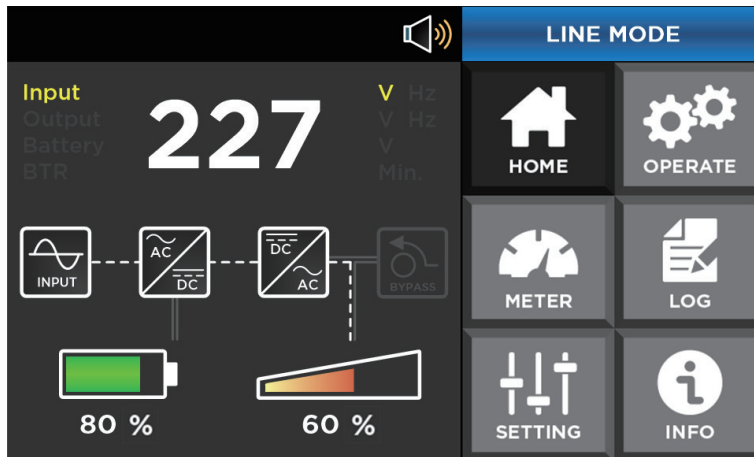

Fig.4-5 Interface of inverter starting
3. After about 10S, when the inverter is running normally, the UPS turns on the inverter relay to output the voltage and enters to Line mode operation. As shown in Fig.4-5.